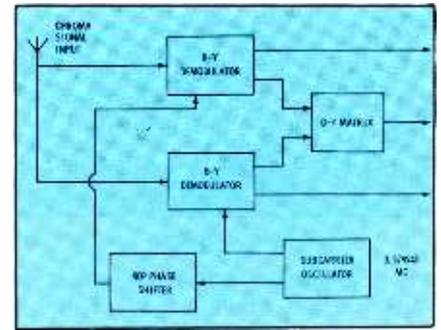

Fig. 6. The block diagram of a typical chroma section used in a color receiver.
Let us see how the system works. The chroma demodulators in a color-TV receiver are phase detectors. Fig. 6 shows a block diagram of a typical chroma section. If you apply an R-Y signal to the R-Y demodulator, full output is obtained; a B-Y signal applied to the R-Y demodulator will give zero output. Again, if you apply a B-Y signal to the B-Y demodulator, full output results; an R-Y signal applied to the B-Y demodulator will give zero output. Finally, if you apply a G-Y signal to the R-Y and B-Y demodulators, full output is obtained from the G-Y matrix; a G-Y/ 90° signal fed to the R-Y and B-Y demodulators will provide zero output from the G-Y matrix.
1. Connect a scope and low-C probe to the output of the R-Y demodulator (Fig. 6).